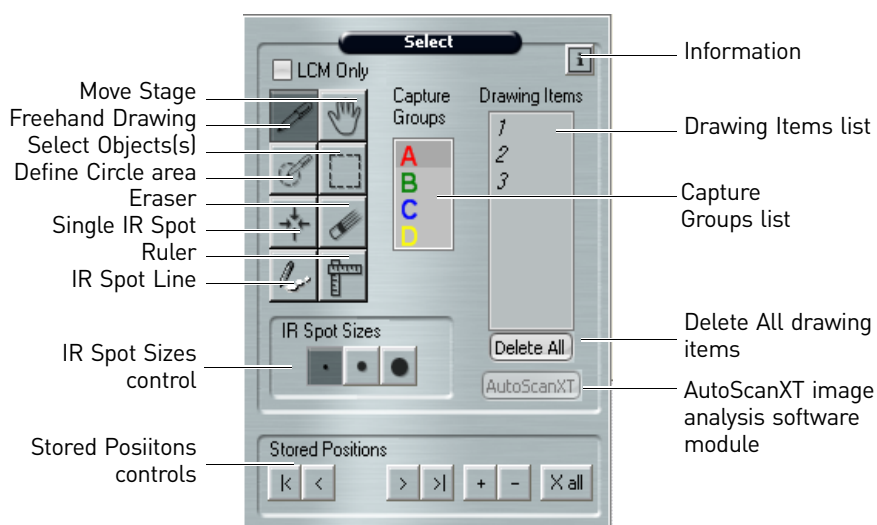

Figure 42 The Select tools pane.
This chapter explains how to indicate the cells and tissue you want to microdissect, how to use the drawing tools, how to measure a distance or object size in the main image window, and how to set the size of the IR capture spots inside your samples. It also explains how to use overlays, capture groups, and stored positions. You will access all of these features from the Select tools pane (see Figure 42).
You use the Select tools pane (see Figure 42) to mark the cells for microdissection.
1. Click the desired size (small, medium, or large) in the **IR Spot Sizes** control in the Select tools pane (see Figure 42) to choose the relative size of the IR capture spots.
3. When you are done marking cells for microdissection, tap or click the **Move Stage** tool (Figure 42) to turn off the drawing tool.
For each item that you draw, a number appears in the Drawing Items list located to the right of the Capture Groups list (see Figure 42).
1. Click the **Select Object(s)** tool (see Figure 42), then click in the main image window.
1. Click the **Select Object(s)** tool (see Figure 42), then click in the main image window: